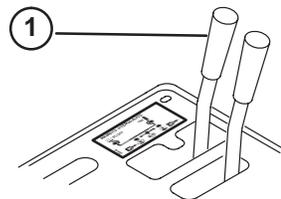
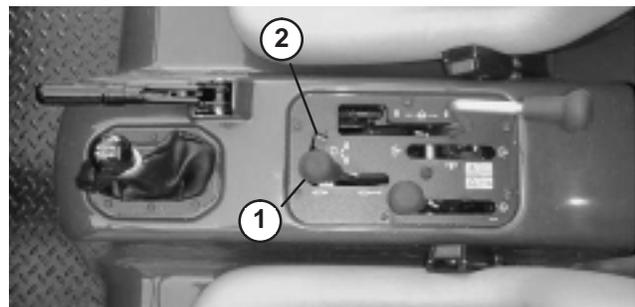

Figure 11
Figure 12
1. On vehicles with serial numbers prior to 239999999, move the remote hydraulic valve handle (Fig. 11) to the float position and on vehicles with serial numbers 240000001 & up, move the hydraulic lift lever (Fig. 12) back and forth to remove the system pressure and ease the disconnection of the quick couplers.